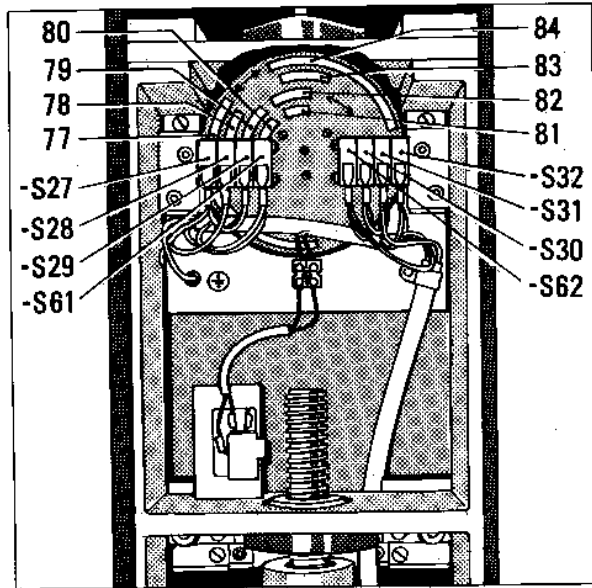

Fig.20
- drive table in trendelenburg position and check limit switch -S29. Adjust cam (Fig.20, item 80) if necessary.
- drive table in horizontal position from both directions and check the horizontal position with water level. If necessary adjust switch cam (Fig.20, item 81).
- drive table in vertical position and check limit switch -S30. If necessary adjust cam (Fig. 20, item 82).